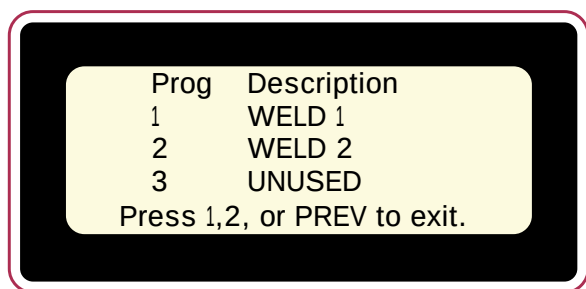

Figure 4-18 Program Description Screen
5. To enter a program description, use the guide provided in Figure 4-18 to move the cursor. The DESCRIPTION field allows for up to 10 alphanumeric characters.